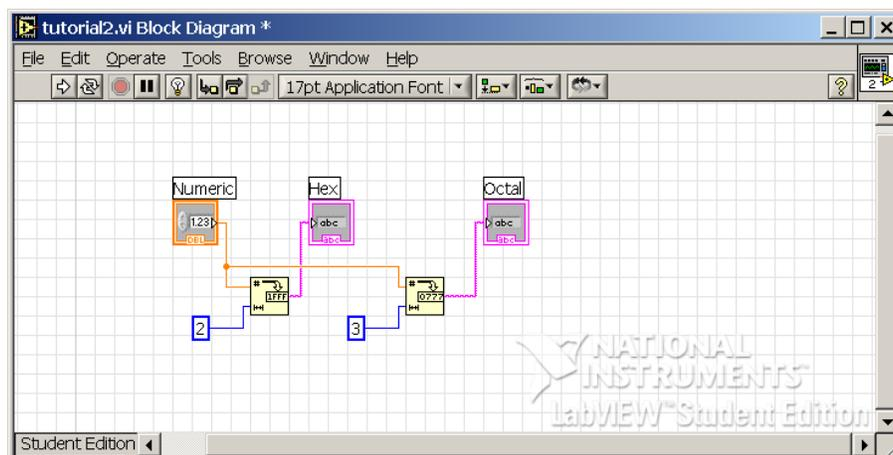

Figure 3
4. From here we need to make all of our connections. For our Hexadecimal conversion, we need to introduce the Numeric to Hexadecimal String object. This can be found in the String -> String/Number Conversion section of the functions palette. We also need to add in our Numeric to Octal String object. This is found in the same location. Lastly, we need to specify the width of our conversion. We do this by instantiating a numeric constant of 2 for our Hex conversions and 3 for our Octal conversion. Once these objects have been instantiated, and connected, your block diagram should look similar to Figure 3.